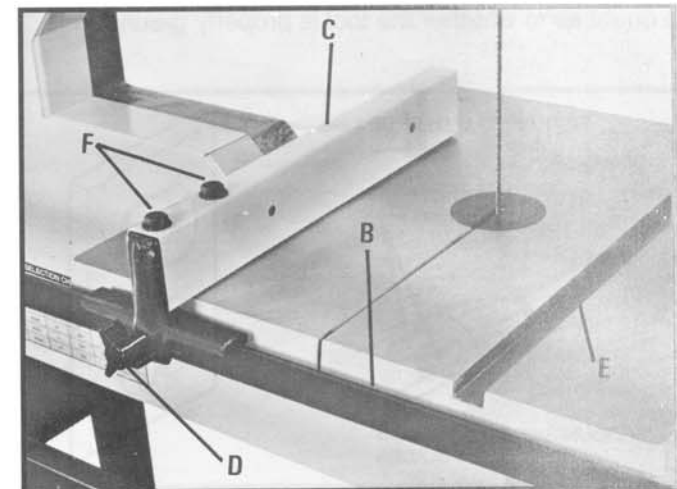

Fig. 9
3. Assemble rip fence (C) Fig. 9, to guide rail (B) and tighten clamp knob (D). **NOTE:** The rip fence may be positioned either to the right or to the left of the saw blade.
**IMPORTANT:** The rip fence (C) Fig. 9, should be parallel to the miter gage slot (E). If it is necessary to make an adjustment, loosen two hex head screws (F) Fig. 9, and adjust body of rip fence so that it is exactly parallel to the miter gage slot (E). Then tighten two hex head screws (F).